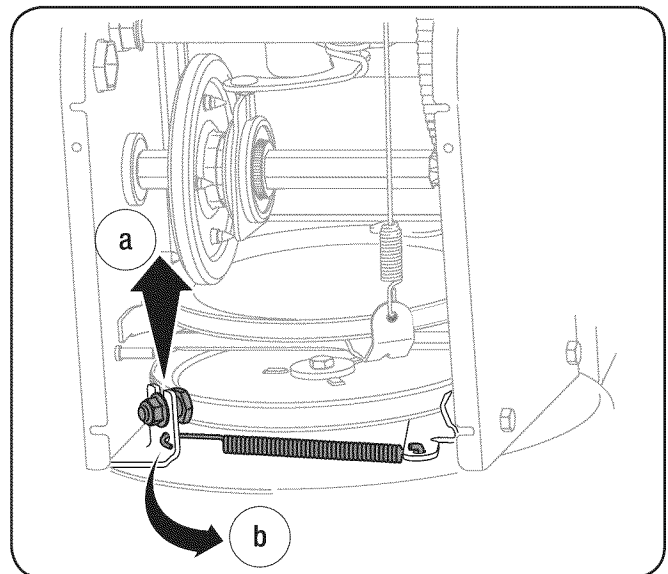

Fig. 7-4
6. Remove the belt as follows. See Fig. 7-4.